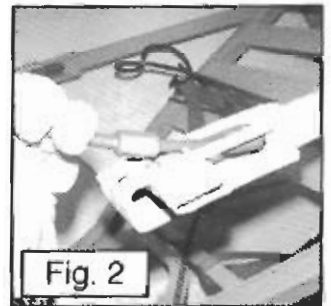

Fig. 2
B. Take one end of the cable and begin to slide it down into the tubing, as shown in **Figure 2**. Once the cable is easily sliding into the tubing (it helps to bend the cable upward while pushing down on it), you are ready to place it in its final position.